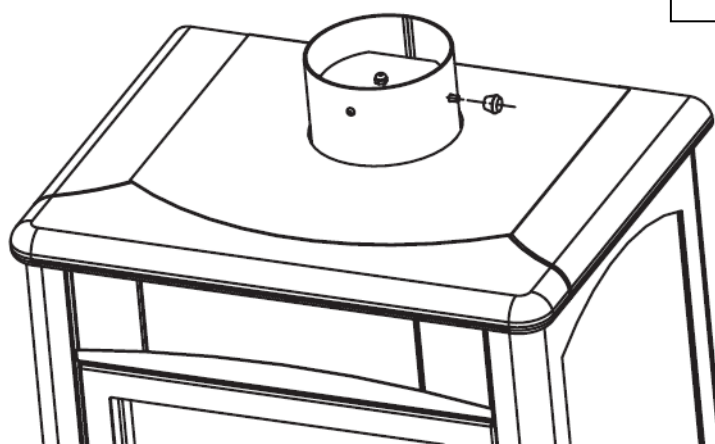

Figure: 3.13.
1. Remove first of all the knob for adjustment of the gas valve; figure 3.13.